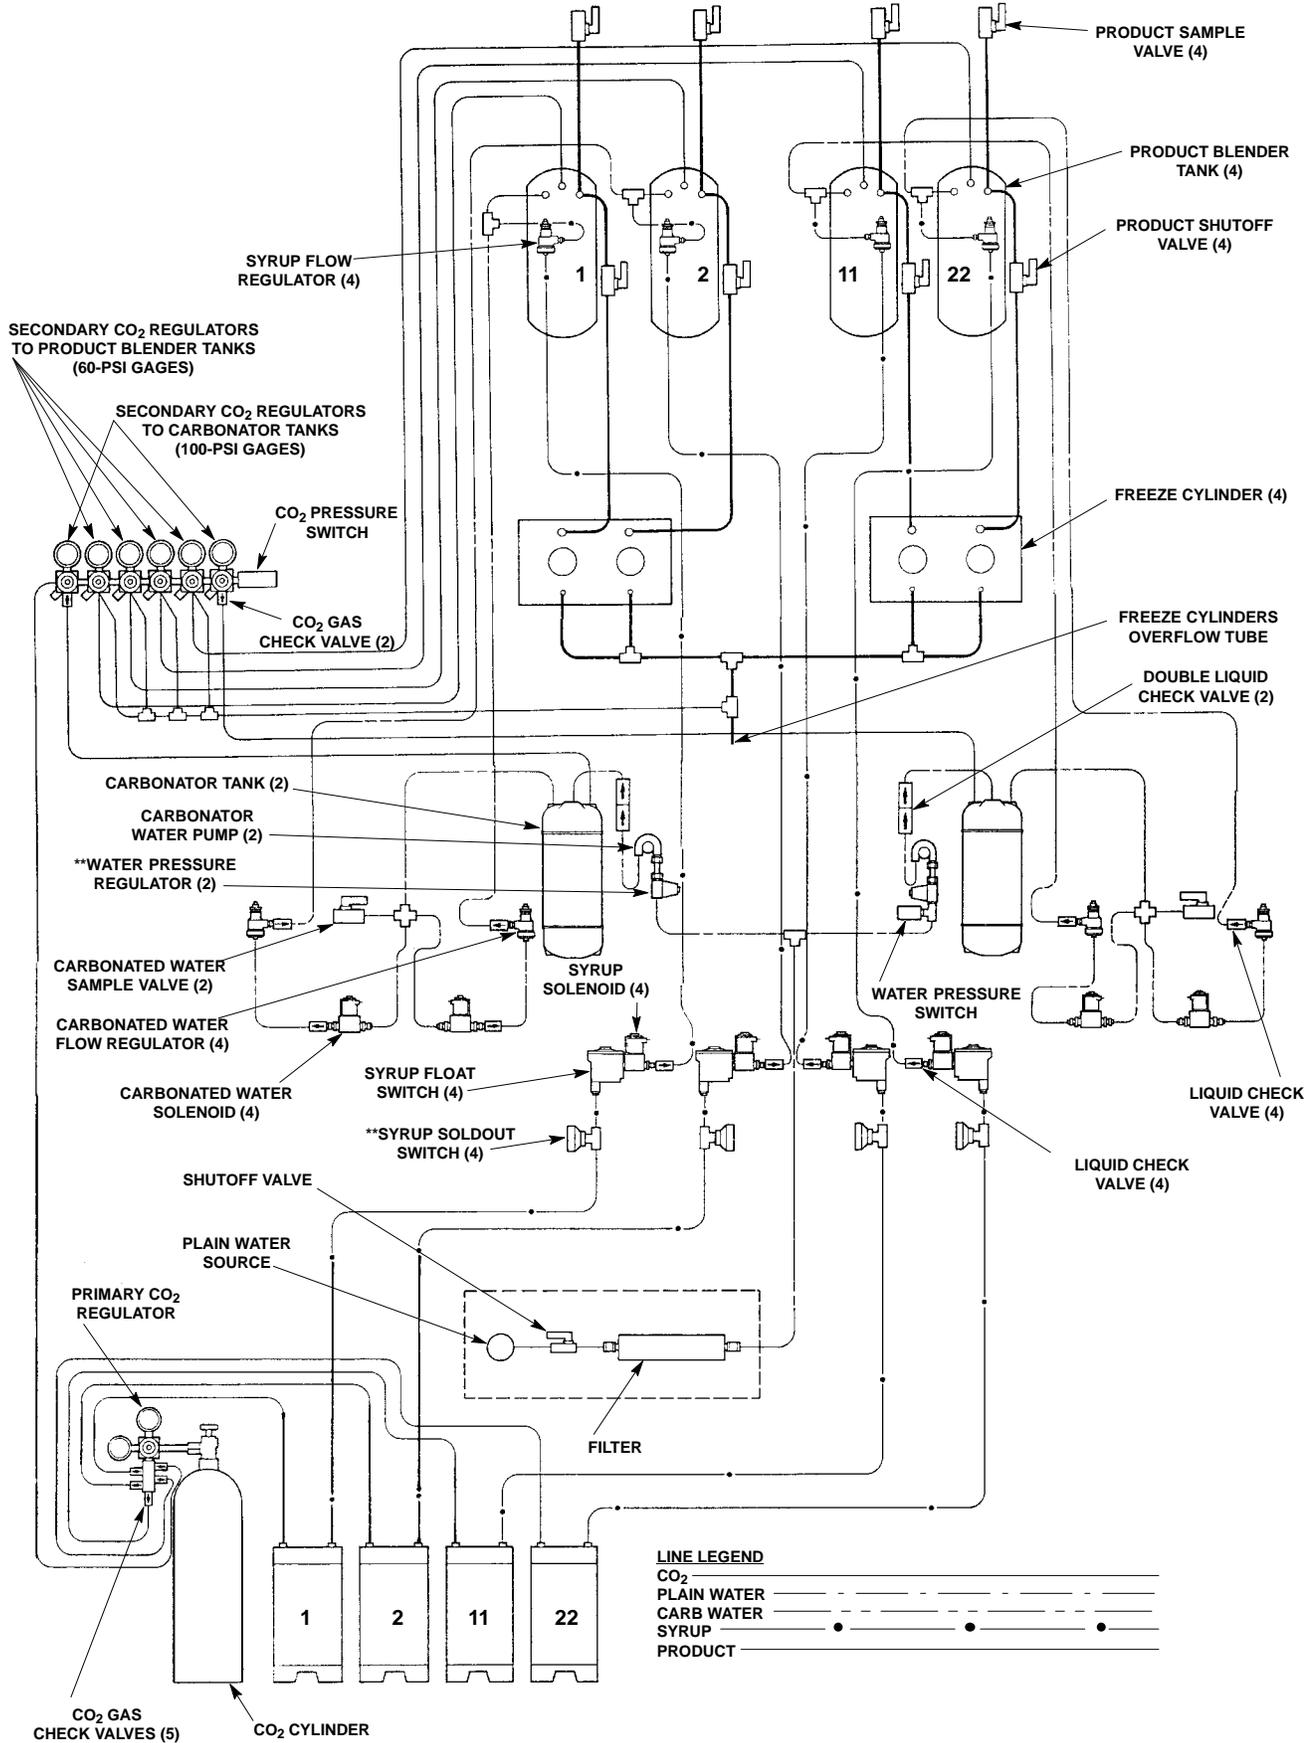

FIGURE 2. FLOW DIAGRAM
*Numbers in parentheses are in reference to items in Figure 2–1.
INSTALLING PRIMARY CO₂ REGULATOR ASSEMBLY ON CO₂ CYLINDER (see Figure 2)
CONNECTING SOFT DRINK TANKS CO₂ LINES TO PRIMARY CO₂ REGULATOR ASSEMBLY (see Figure 2)
NOTE: A syrup bag–n–box system may be connected to Unit in place of soft drink tanks shown in Figure 2.